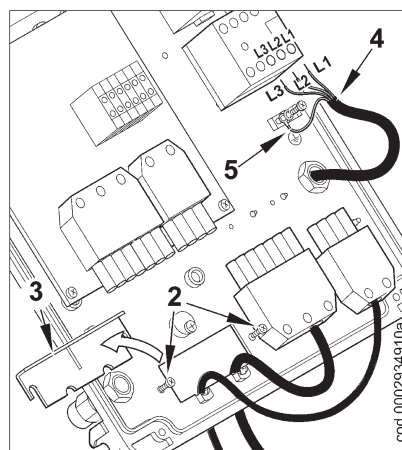

Fig. 2
- 1) Remove the lid by unscrewing the 4 screws (1) in figure , without removing the transparent door. In this way the burner's electrical panel can be accessed. .
- 2) Slacken le screws (2) and, after removing the cable float (3), pass the two 7 and 4 pole plugs through the hole (see figure 2). Connect the power supply cables (4) to the contactor, connect the cable to ground (5) and close the cable holder.